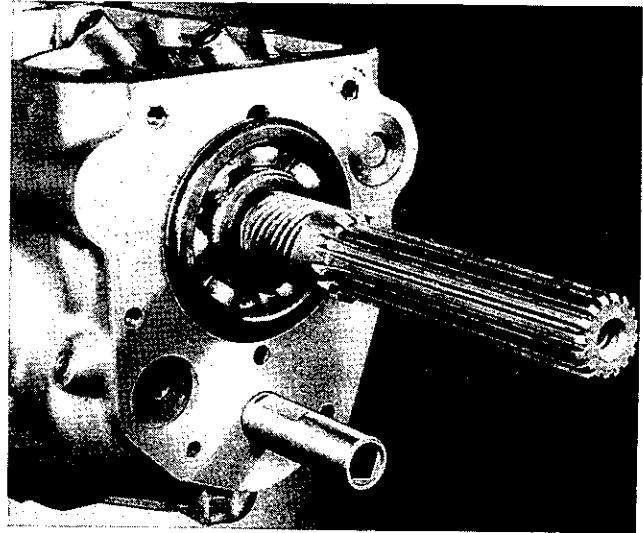
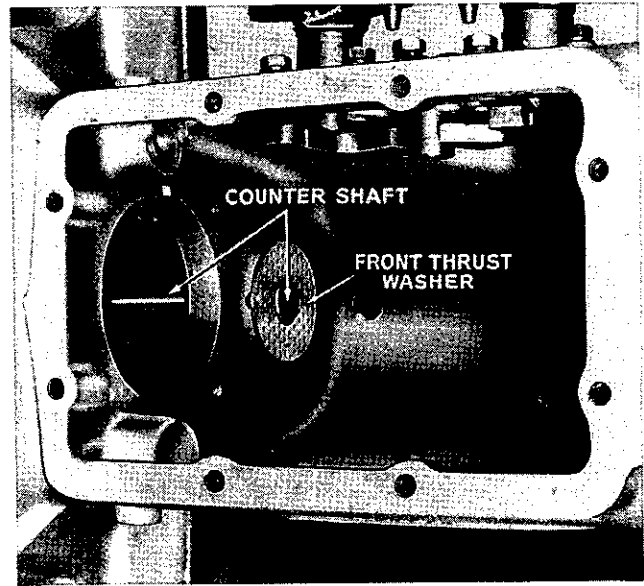
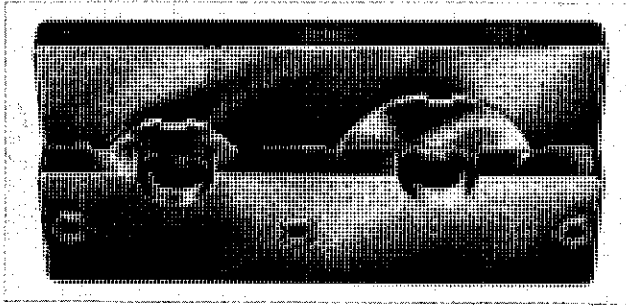

Fig. 5. Needle roller retainer tube—Churchill Tool No. 20SM-77
Fig. 15. Positioning front thrust washer with countershaft
Fig. 16. Gauging countershaft thrust washers with Churchill Fixture No. 20SM-82
9. After removal of the countershaft front cover plate which is secured by two wired setscrews and spring washers ($\frac{7}{16}$ " A/F spanner) drive out the countershaft, with a suitable tube, as shown in Fig. 5 to retain the 48 needle rollers in position, maintaining contact throughout between the tube and countershaft.
7. Having fitted rollers, apply retainer, as shown in Fig. 5 and after locating the front thrust washers with the countershaft (Fig. 15) and the smaller one with grease—position the assembly in the casing. Before fitting new thrust washers gauge these as shown in Fig. 16. The correct end float for the countershaft gears should be between $.006''$ — $.010''$. If there is insufficient end float, the distance collar should be reduced as necessary by rubbing this down on a piece of emery cloth placed on a surface plate. Where too much end float exists new thrust washers and/or distance piece should be fitted.